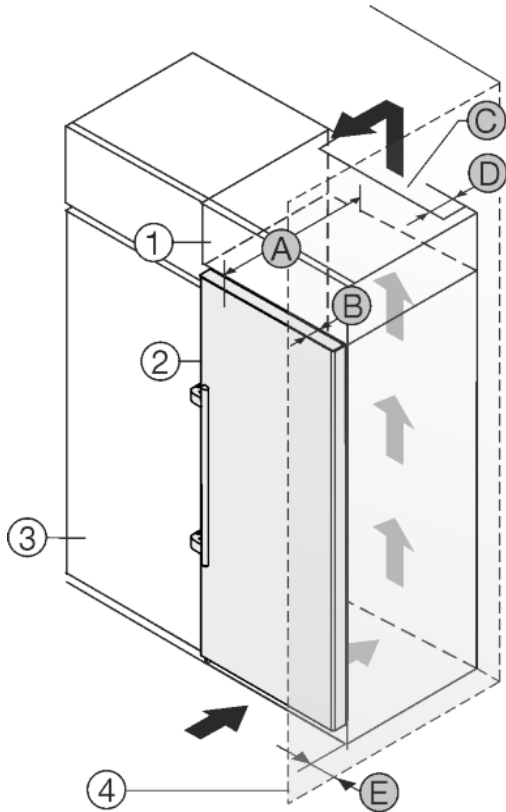

Fig. 20
The appliance can be built into kitchen units. A top cupboard Fig. 20 (2) can be added above the appliance in order to bring the appliance Fig. 20 (1) up to the height of the fitted kitchen units.
The appliance can be installed right next to the kitchen cabinet Fig. 20 (3). The appliance must stick out by the depth Fig. 20 (B) from the front of the cabinet so that the doors can be opened fully. The appliance may protrude further depending on the depth of the kitchen cabinets and whether wall spacers are used.
- There must be a ventilation shaft with the depth Fig. 20 (D) at the back of the top cupboard over the entire width of the cupboard.
- The ventilation shaft Fig. 20 (C) must be observed under the ceiling.
If the appliance is installed with the hinges next to a wall Fig. 20 (4) the distance Fig. 20 (E) between the appliance and the wall must be observed. This is how far the handle protrudes when the door is open.